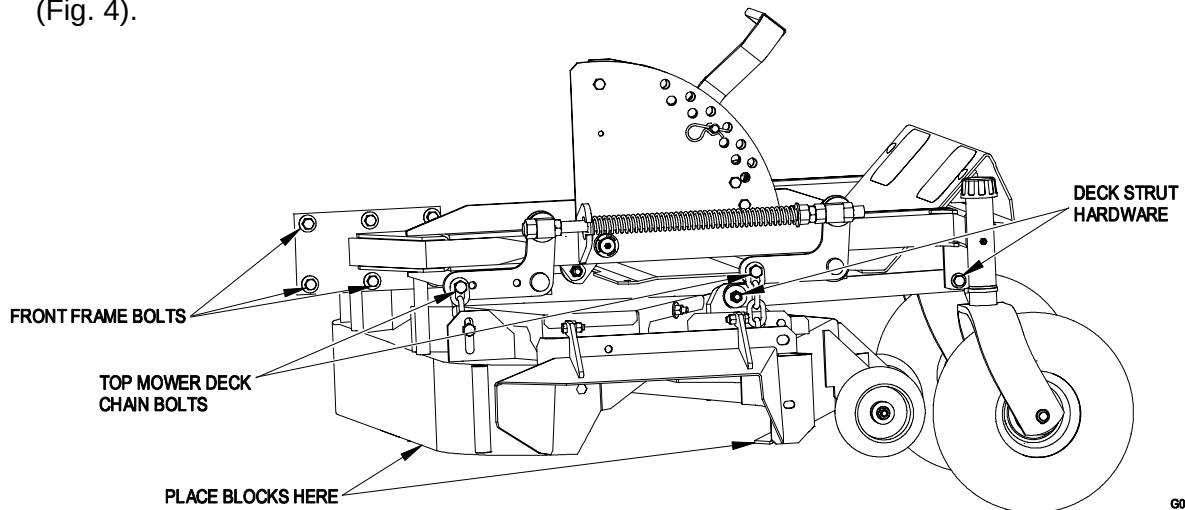

Figure 4
4. Place blocks under the edges of the mower deck skirt (Fig. 4).
5. Lower the mower deck until it is safely resting onto the blocks (Fig. 4).
6. Remove the (4) top mower deck chain bolts to disconnect the mower from the front frame (Fig. 4).
9. Remove all hardware from the struts to disconnect the mower from the front frame (Fig. 4).
11. Remove and discard the 6 front frame bolts (3 from each side). Retain the washers and whizlock nuts to be reused (Fig 4).